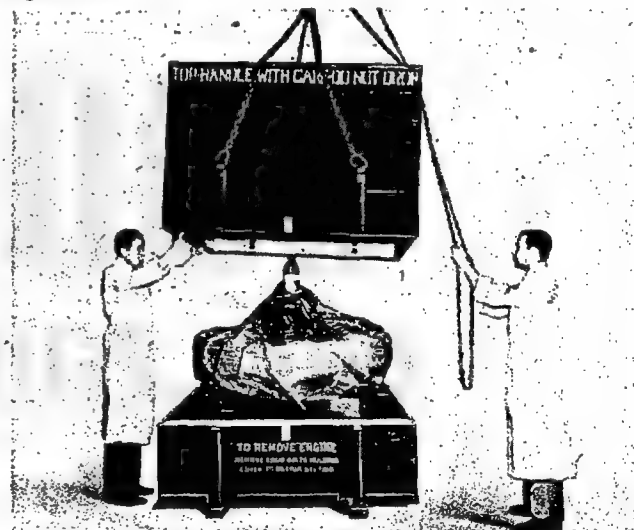

Figure 26—Raising or Lowering Shipping Box Cover
(1) Break the seals and remove the four bolts from the metal straps on the shipping box.
(2) Attach a hoisting cable to the hooks on the metal straps and remove the shipping box cover. See figure 26.